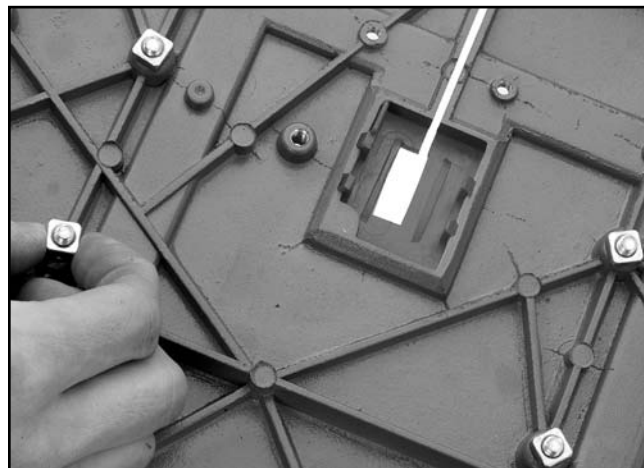

Figure 9. Loosening the mounting screws.
4. Loosen the hex nuts on the four phillips mounting screws (**Figure 9**).